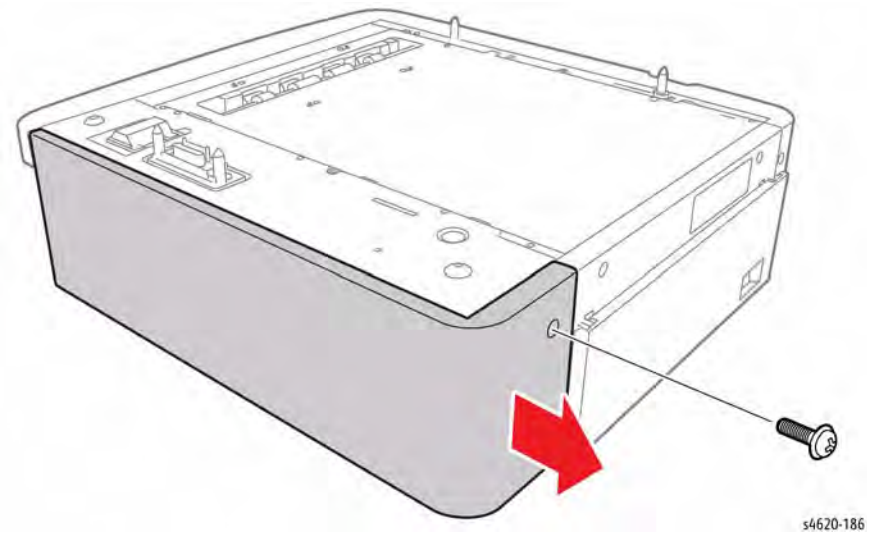

Figure 1 Remove the Right Cover
2. Remove 1 screw (plastic) and slide the cover to the rear to release 6 hooks that secure the cover, Figure 1.